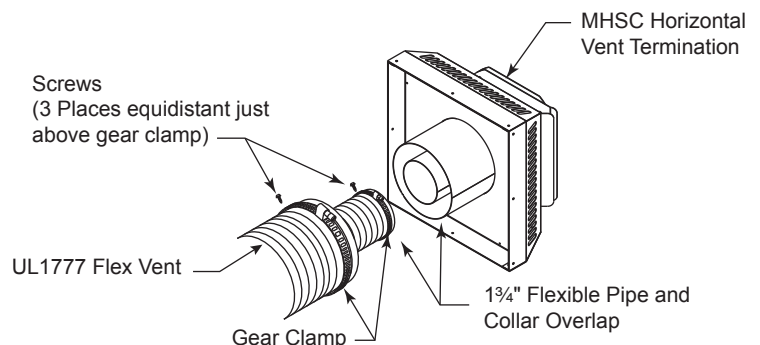

Figure 45 -
1. Connect the 5" flexible vent to the horizontal termination as in *Figure 45*.
2. Connect the 8" flexible vent to the termination ring as in *Figure 45*.
3. Review *Figure 45* for proper overlap and clamp placement.
5. Use only listed and approved terminations and accessories, installed per the termination instructions and *Figure 45*.